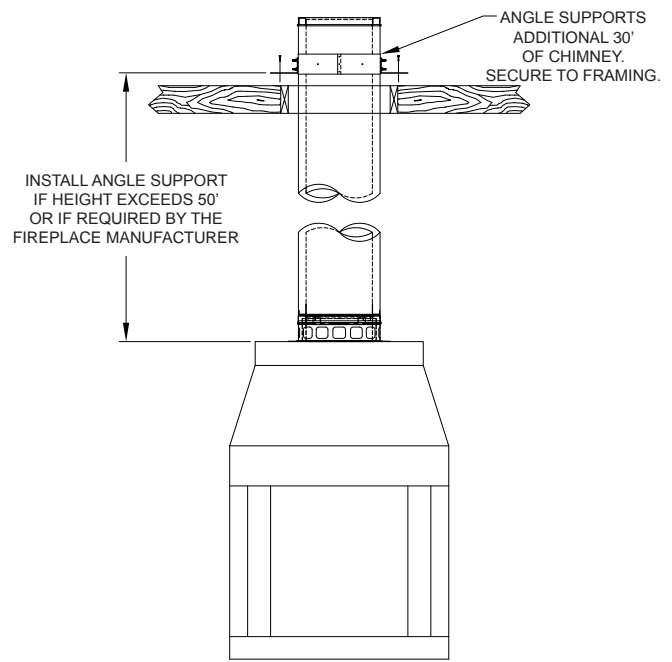
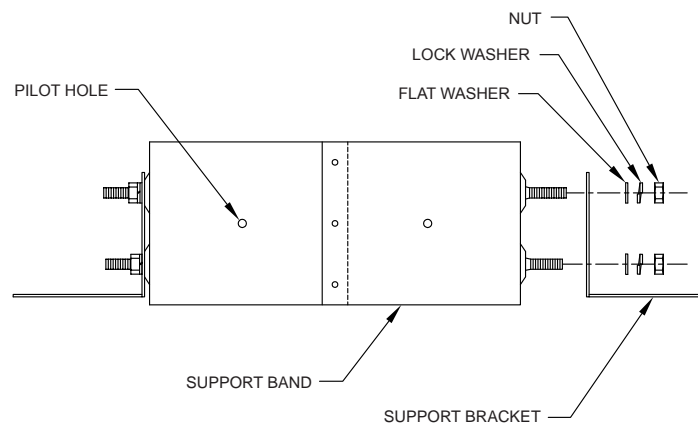
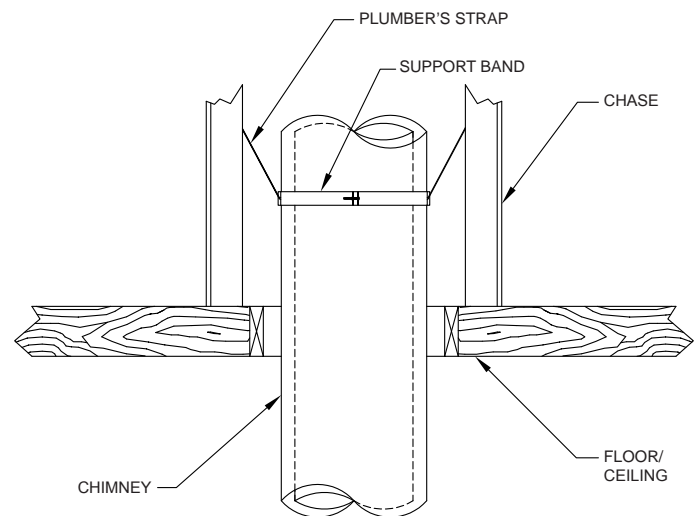

FIG. 5
FIG. 6
FIG. 7
Angle Support and Support Band: Install an Angle Support if total chimney height is greater than 50 feet, or if the fireplace manufacturer requires it. If additional support is needed, install one or more Angle Supports which will support 30 feet of chimney **FIG. 5**. Slide the Angle Support around the chimney and align over framed opening. Secure to casing with (4) sheet metal screws and assemble brackets per **FIG. 6**. Nail the brackets to the framing using a minimum of (2) nails or screws per bracket. A Support Band may be required by some fireplace manufacturers to keep the chimney vertical and help maintain clearances to combustibles within a chase. Clamp the Support Band to the pipe using the nut and bolt provided and secure legs to nearby framing using plumbers strap or guy wires. See **FIG. 7**. The Support Band does not support the weight of the chimney, it is only used to keep the chimney centered within a chase.